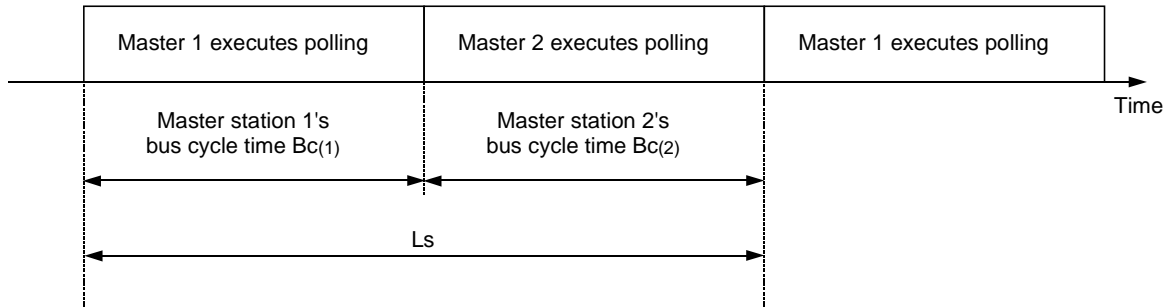

Fig. 6.2 The transmission delay time when multiple masters are connected
The following diagram (Fig. 6.2) shows the example where two master stations are connected to the same network.
Bc(1) and Bc(2) in the following diagram (Fig. 6.2) are the bus cycle times of the master station 1 and master station 2, respectively, and their transmission delay time is calculated using the formula presented in Section 6.1.